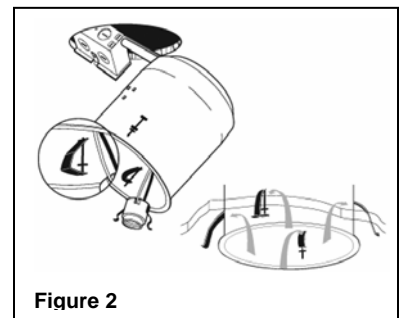

Figure 2
6. Hold fixture up against ceiling and push retaining clips against can (See Figure 2).